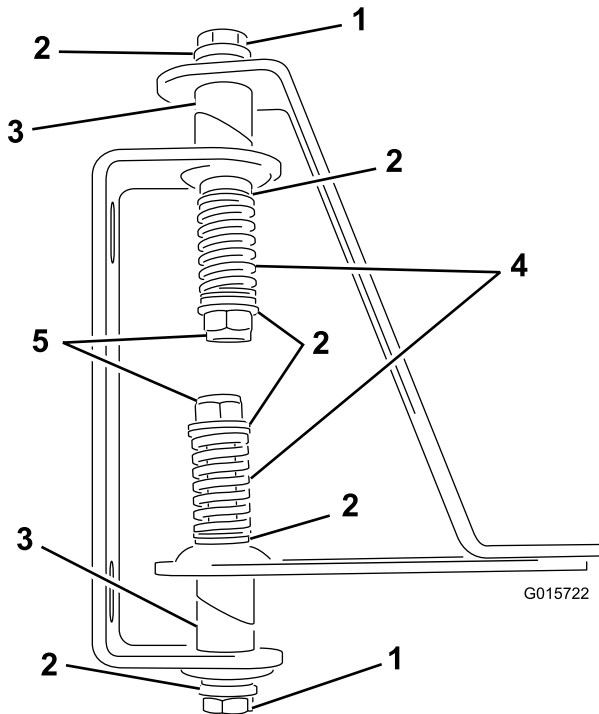

Figure 4
- Insert the bolts through the hinged welded tube openings, hinges, and straps (Figure 4).
- Install a spring on the end of each bolt (Figure 4).